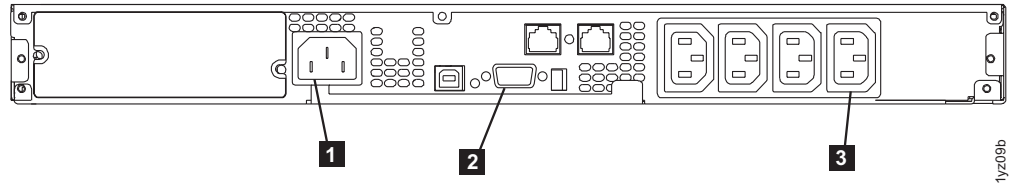

Figure 16. 2145 UPS-1U (rear view)
7. At the back of the 2145 UPS-1U, plug the 2145 UPS-1U main-power connector into the power socket ( **1** in Figure 16 on page 21). The 2145 UPS-1U is in standby mode, so all indicators are off.